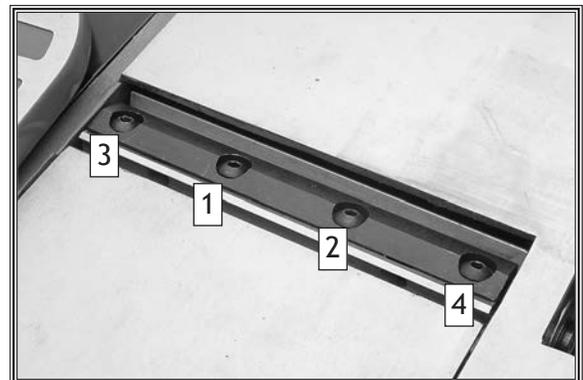

Figure 38. Knife clamp screw tightening sequence.
8. Slightly tighten the clamp screws, according to the proper tightening sequence, as shown in **Figure 38**. Repeat **Steps 6-7** for the other cutterhead knife.
10. When the knife heights are set correctly, final tighten each of the knives' clamp screws according to the proper tightening sequence (see **Figure 38**).